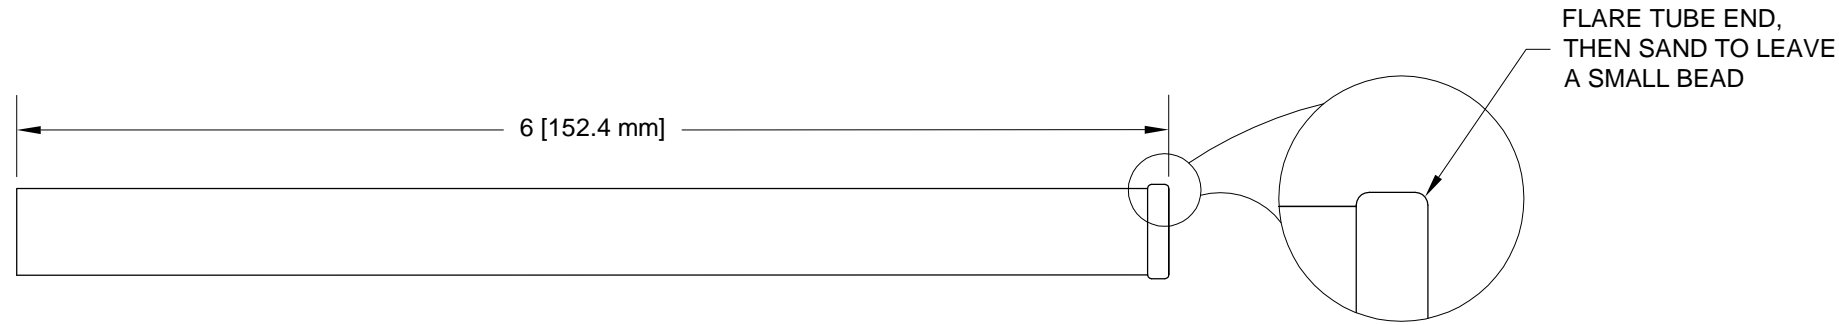

FIGURE 2: SNIFFLE LINE EXTENSION TEMPLATE
Step 4: (Tri-Gear only) Fabricate the FF-00083 Sniffle Line Extension from AT0-035X3/8 aluminum tube as shown in Figure 2.